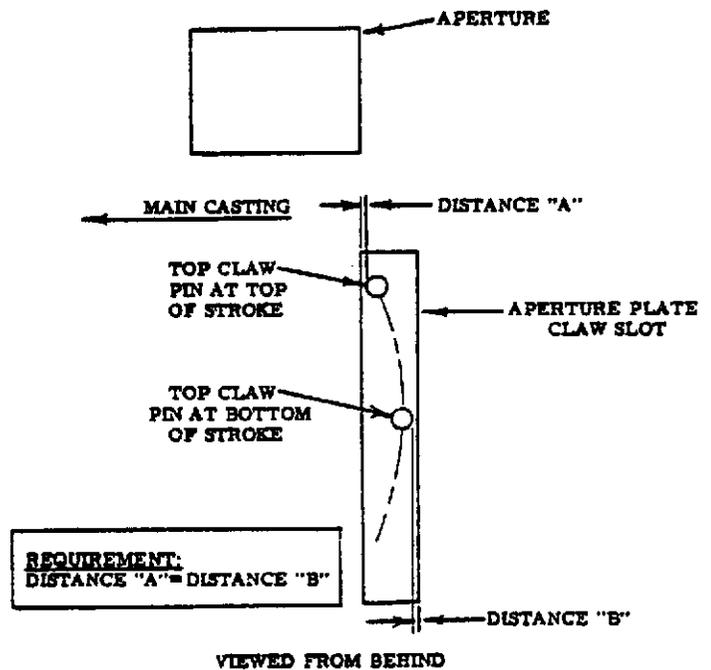

Figure 3-77. SIDE CLEARANCE
Before attempting any adjustments, manually rotate the Inching Knob to make sure the Claw Arm pins do not strike the sides of the Aperture Plate Claw Slot. At the top of the Claw Arm Stroke, the Top Claw Arm Pin will be nearer the inside edge of the Aperture Plate Slot (Figure 3-77). At the bottom of its travel, this Pin will be nearer the outside edge of the Aperture Plate Slot. Loosen Screw (14) and adjust Bushing (8) (Figure 3-76) so these two distances are equal. (Removing the Lamphouse Cover and viewing the Pins from behind the Aperture Plate aids in this adjustment.)
Arm Pins in the sprocket holes of the film. When Framing is correct, the Top Claw Arm Pin should be the same distance from the inside edge of the sprocket hole at the top of its stroke as it is from the outside edge of the sprocket hole at the bottom of its stroke. (Figure 3-77) Loosen Screw (14) and adjust the Bushing (8) (Figure 3-76) so these two distances are equal. Remove the film from the projector after proper Framing and Side Clearance are established.
The Top Claw Arm Pin should be the same distance from the inside edge of the Gauge sprocket hole at the top of its stroke as it is from the outside edge of the Gauge sprocket hole at the bottom of its stroke. (Figure 3-77)